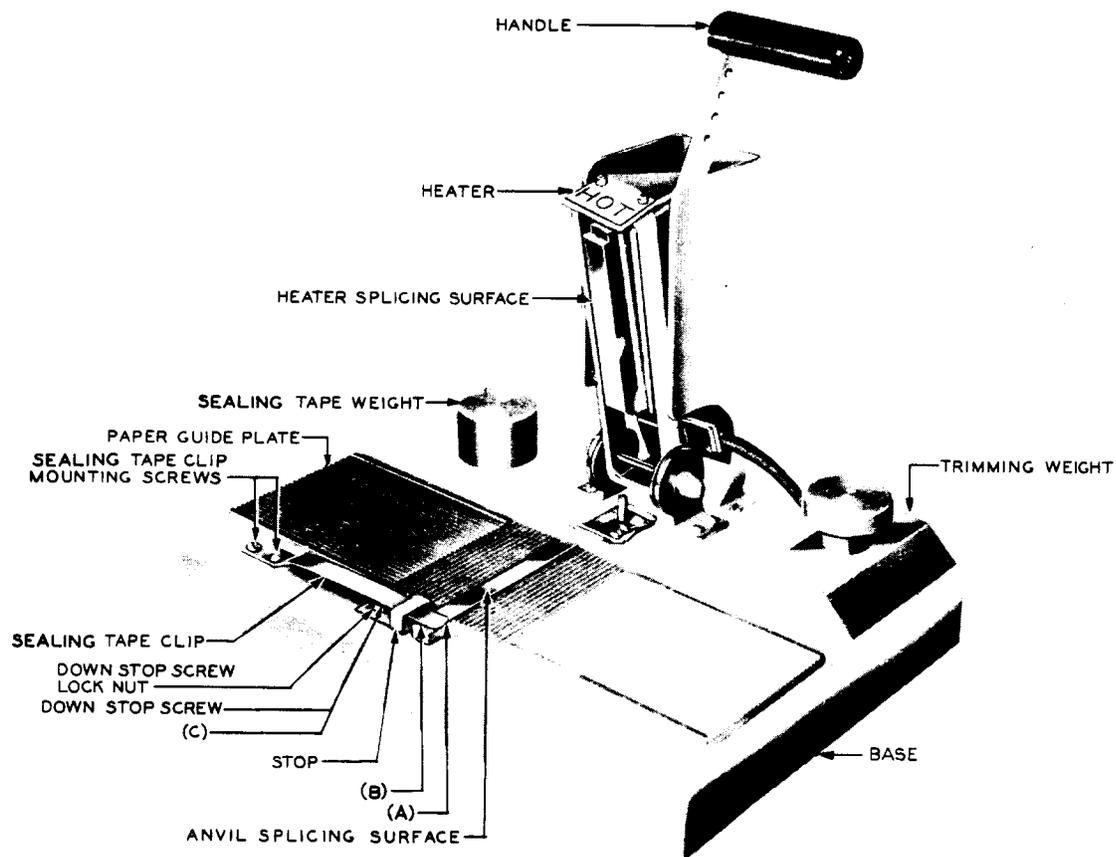

Fig. 1 - Nos. 604A and 604D Splicers (No. 604D Splicer Illustrated)
- 2.03 Pressure of Sealing Tape Clip Against Anvil: Figs. 1(A), 2(A), and 3(A) - The pressure of the sealing tape clip against the anvil shall be
- 2.04 Position of Sealing Tape Clip on Anvil: Figs. 1(B), 2(B), and 3(B) - The sealing tape clip shall bear approximately flat on the anvil.
- 2.05 Clearance Between Sealing Tape Clip and Downstop Screw: Figs. 1(C), 2(C), and 3(C) - There shall be a clearance between the sealing tape clip and the tip of the downstop screw, but this clearance shall not exceed 0.015 inch.